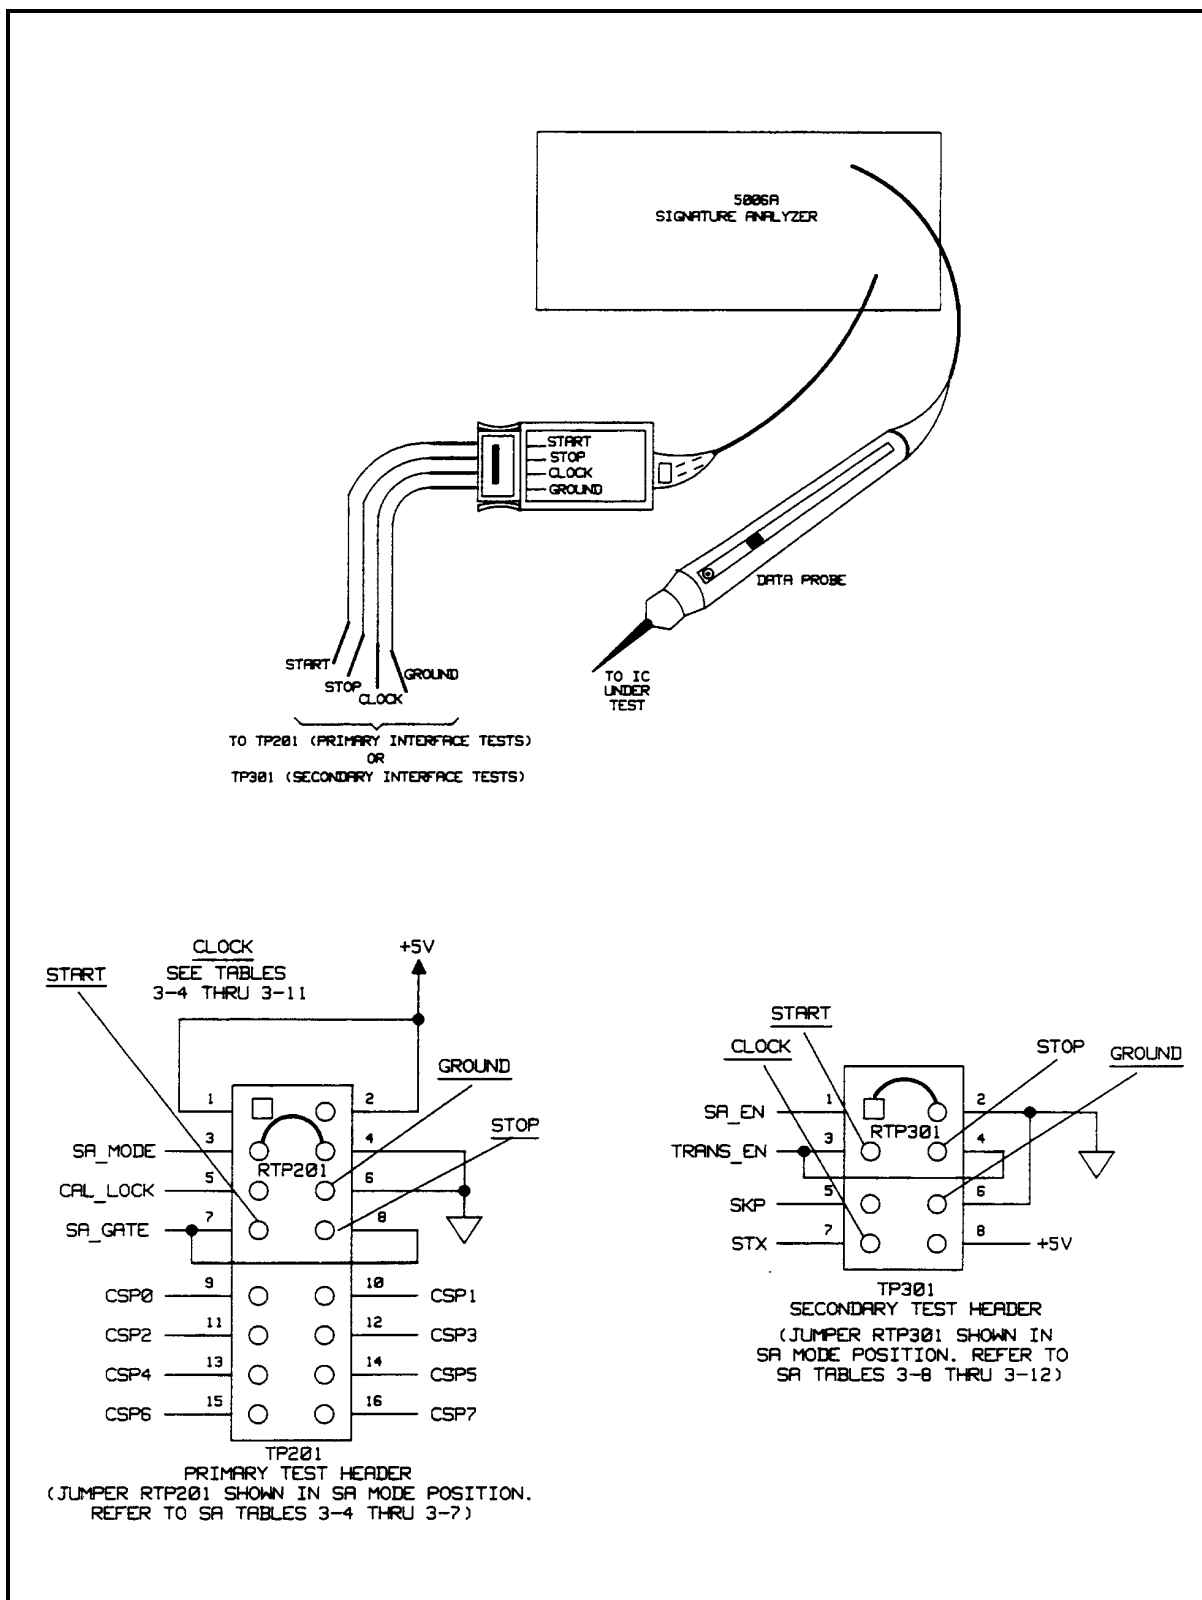

Figure 3-2. Test Headers Test Setup for Signature Analysis
Figure 3-2 illustrates the primary (TP201) and secondary (TP301) test header connections required to perform the S.A. Tests given in Tables 3-4 through 3-12. The following is a description of the test setup:
- 1. Connect jumper RTP201 in the S.A. position (SA_MODE) across pins 3 and 4 of the primary test header TP201 (see Figure 3-2).
- 1. Connect jumper RTP301 in the S.A. position (SA_EN) across pins 1 and 2 of the primary test header TP301 (see Figure 3-2).
- e. Upon completion of the S.A. tests, return jumpers RTP201 and/or RTP301 to their normal operating positions of TP201 and TP301 as follows (see Figure 3-2): RTP201 between TP201-7 and TP201-8; RTP301 between TP301-3 and TP301-4.